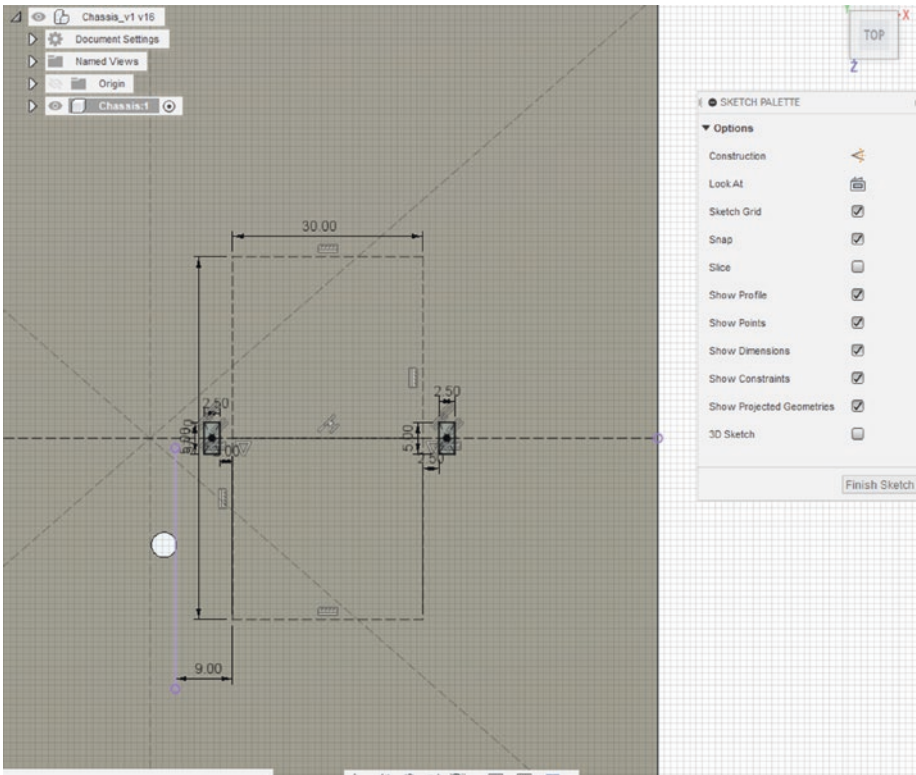

Figure 6-57. Add the holes for zip tie that will hold the battery pack
12. Go back to the top of the chassis and create a rectangle to represent the battery holder and then two more rectangles that will be holes for a zip tie. See Figure 6-57 for the measurements.